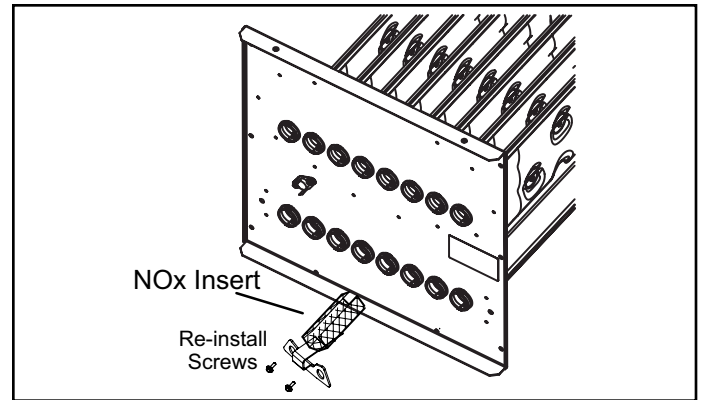

Figure 7. NOx Inserts
- b. Remove the screws which secures each of the NOx inserts to the clamshell. Remove the NOx inserts and reinstall the screws. See Figure 7.